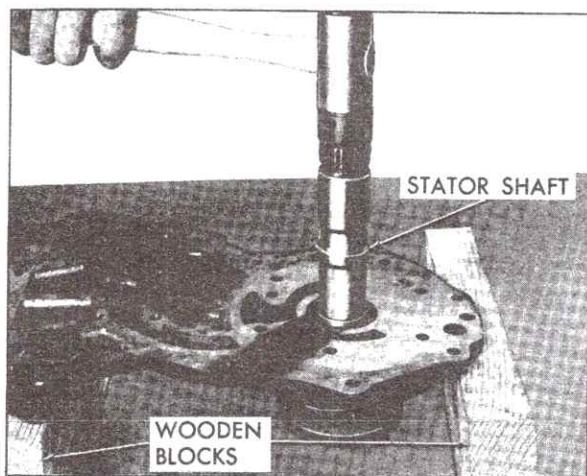

Fig. 7-153 Removing Drive Sprocket Support
b. Support cover plate on wooden blocks and using a plastic mallet, vigorously strike the stator shaft of the drive sprocket support, Fig. 7-153, and the hub of the driven sprocket support, Fig. 7-154, until they are removed from their pump cover plate bores.